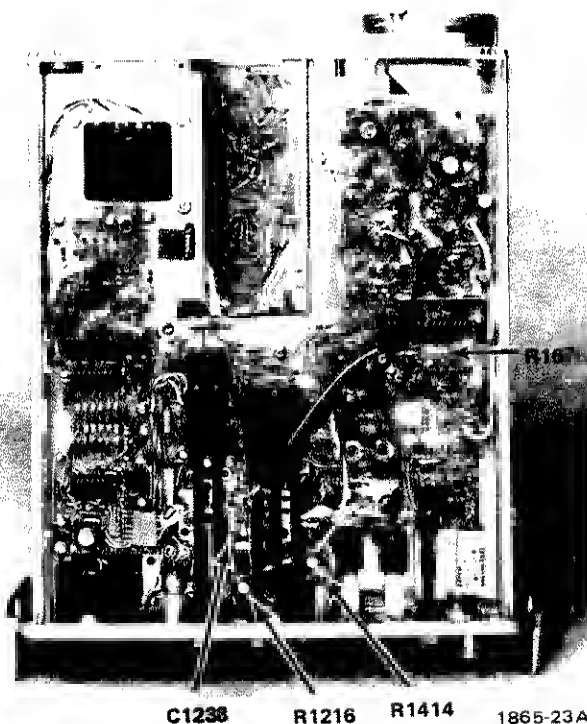

Fig. 4-7. Fast Ramp test point.
a. Connect the test oscilloscope test probe to the front lead of C1238 (see Fig. 4-7).
c. ADJUST—R1676 (RAMP PEAK) for a peak-to-peak amplitude of 6 V ± 0.2 V with the ramp beginning at an approximate -2 V level and ramp ending at an approximate $+4$ V level (see Fig. 4-7).